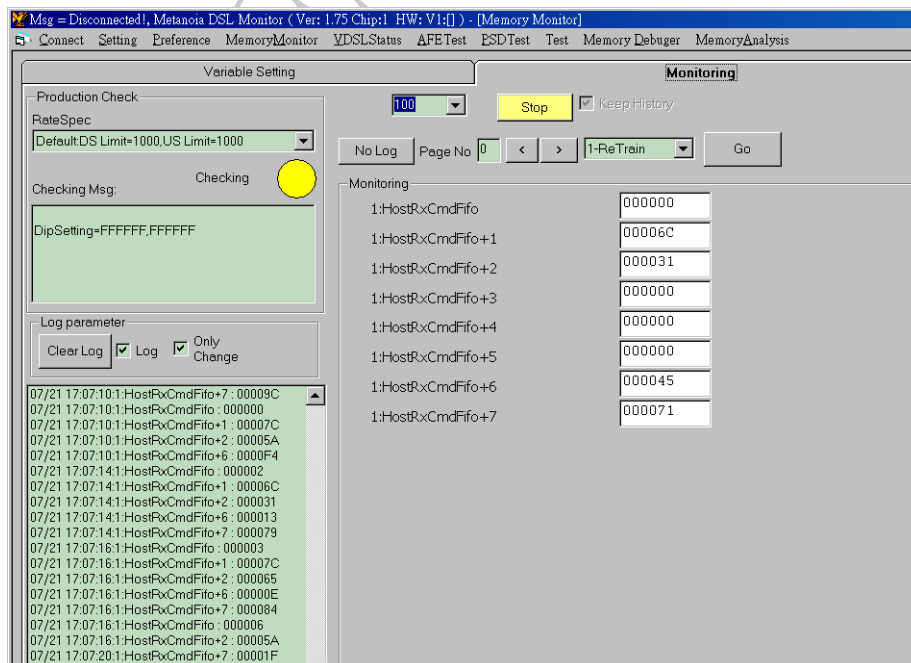

Figure 2.3: HPI Debug Interface.
- Those 8 bytes we write into HPI can be verified by using DslMonitor application, open DslMonitor, Monitor variable "HostRxCmdFifo" as in Figure 2.3: